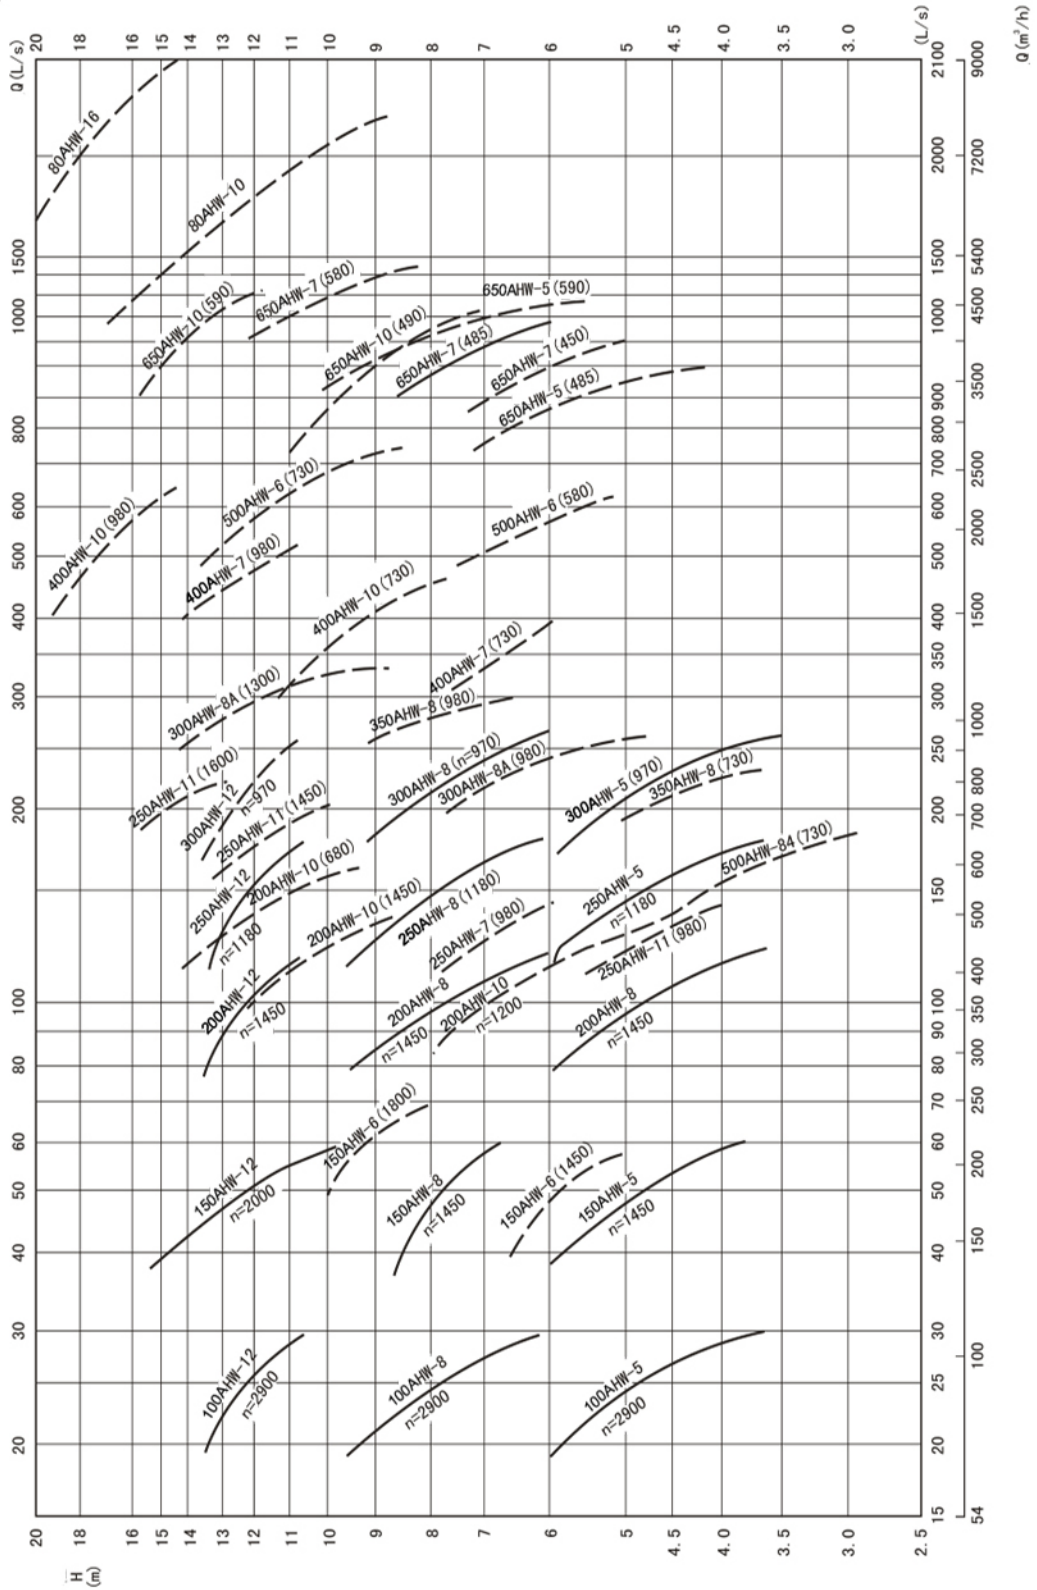

Fig. 3 Flow-head curve chart of model AHWPump (for users to select the model)
1. Pump performance: see the flow-head curve chart (Fig.3) and the performance table (Table 3 and 4) of model GAHW pump.